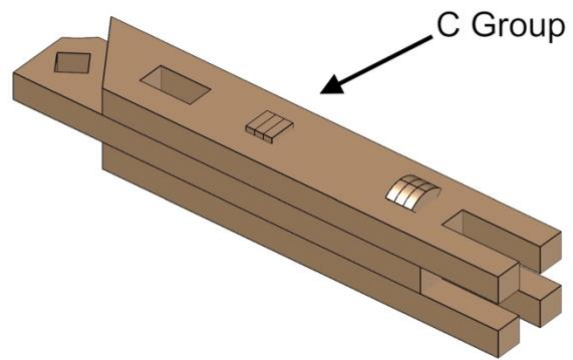

Fig. 38
- *Fig. 38* shows the completed process.